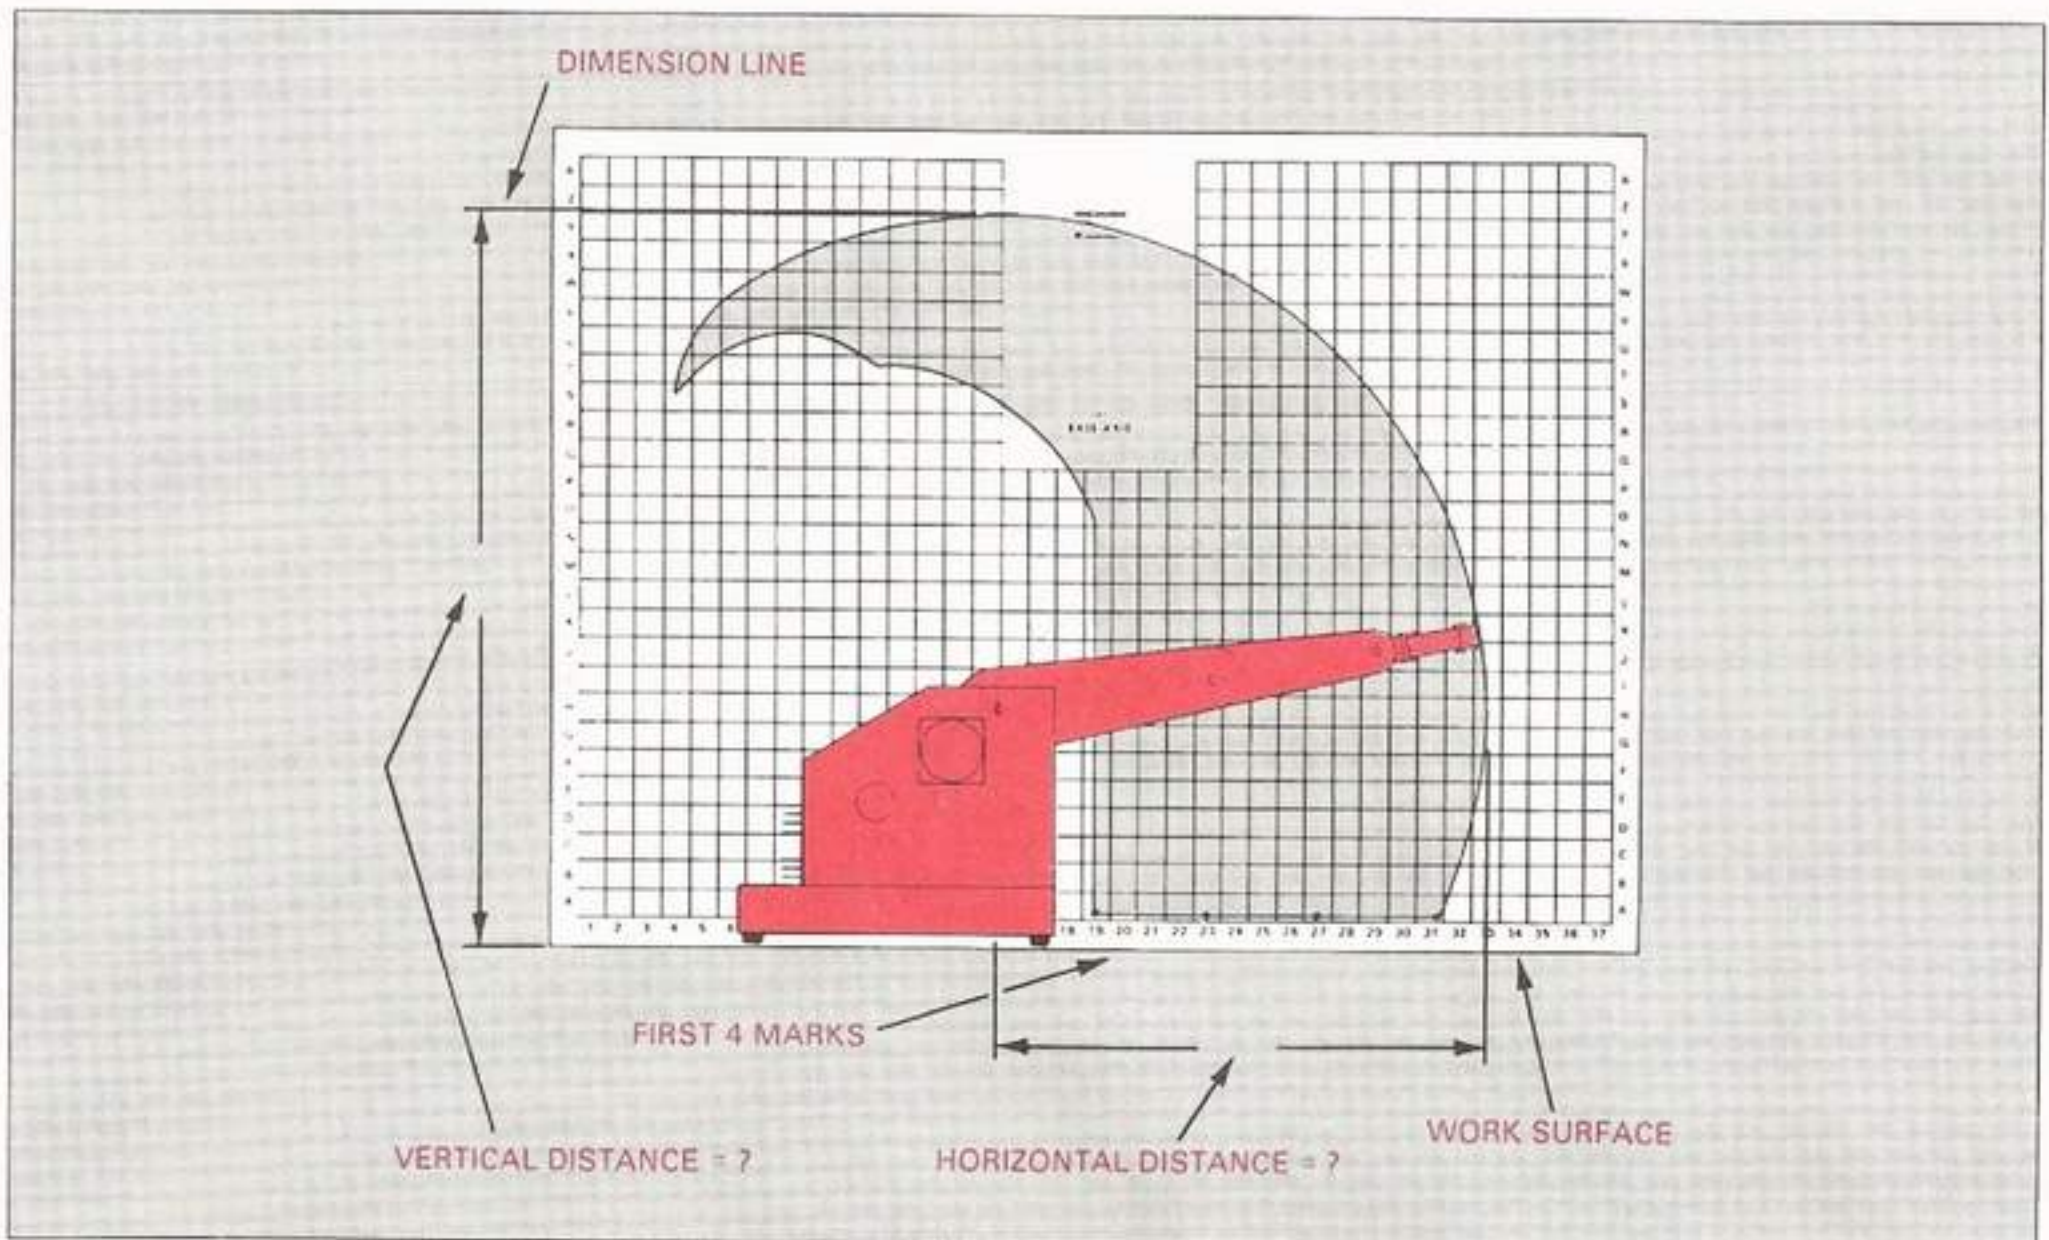

Fig. 81: Vertical Envelope Nomenclature
- ___m. Lay the grid sheet down and carefully draw a straight horizontal line through the first four marks, as shown in Fig. 81. Then, continue with this line by making a series of smooth, curved lines through the markings, until you reach the last mark.
- ___n. The last mark you made should be nearly in line with the imaginary front of the body of the Pro-Arm. Draw a vertical line from this mark down to the horizontal line that indicates the top of the work surface. Your completed work envelope should be similar to that shown in Fig. 81.
- ___p. Measure the horizontal distance, on the Working Space Chart, from the center line of the base axis to the point on the work envelope that is the greatest distance from the base axis, as depicted in Fig. 81. Record this measurement below. *Note: Each line represents a distance of one inch (25 mm).*
- ___q. Draw a dimension line on the Working Space Chart indicating the horizontal distance, and then add the measurement from **Step p**. Refer to Fig. 81, again.
- ___s. Draw a dimension line on the Working Space Chart indicating the vertical distance, and then add the measurement from **Step r**. Refer to Fig. 81, if necessary.